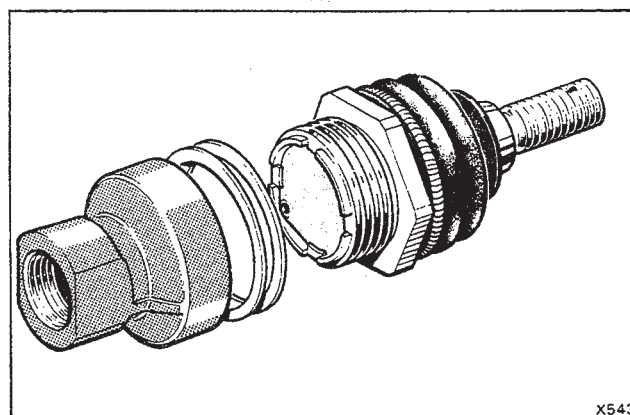

Fig. H11 Damper ball pin assembly
5. Unscrew the ball pin assembly from its housing taking care not to damage the protective rubber boot. Collect the pre-load adjustment shims (see Fig. H11).